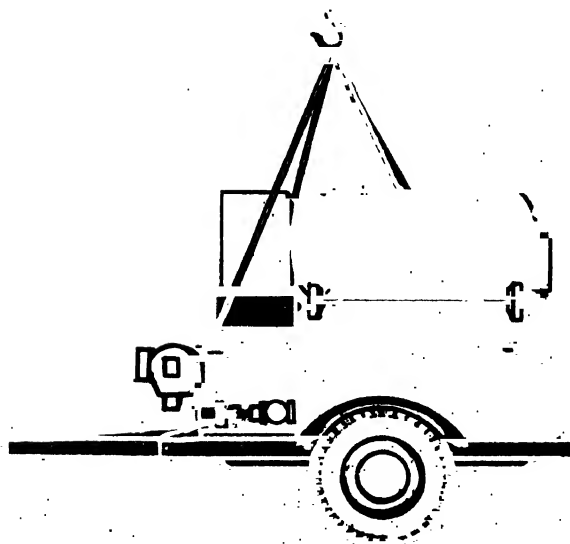

FIGURE 7. TRAILER UNLOADING BY CRANE
c. **Lifting Hot Oil Heater.** Refer to figure 7 and remove the hot oil heater from the flatcar.